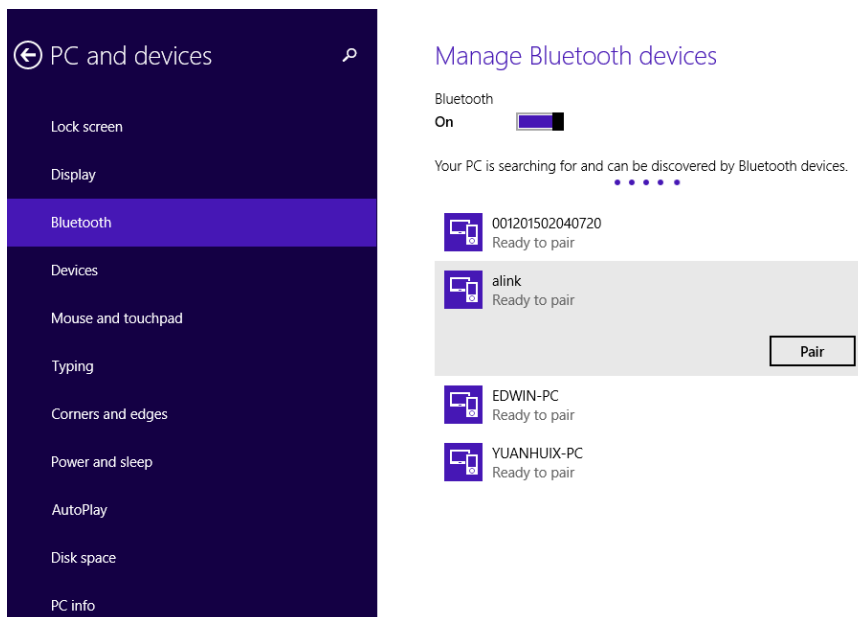

Figure 11 Pair
Step 2: Click pairing, shown as Figure 11.